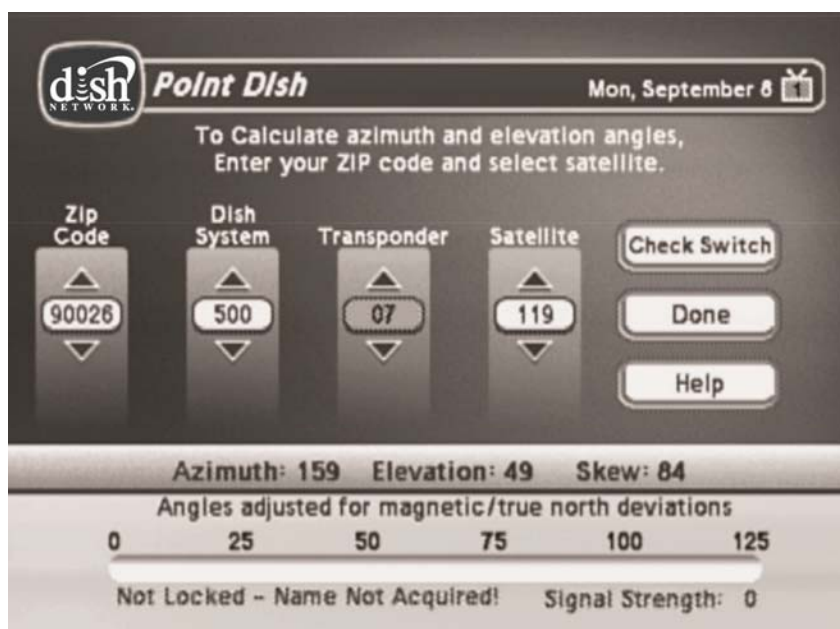

Figure 2 Point Dish Screen
1. Open the **Point Dish/Signal Strength** screen. See your DISH Network satellite receiver user's guide for instructions. A **Point Dish/Signal** screen similar to the one shown as Figure 2 will open.